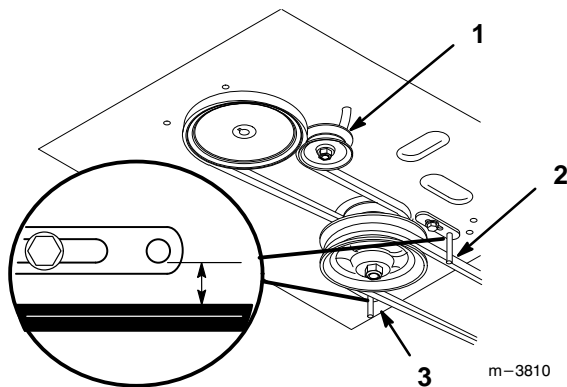

Figure 42
5. Install new belt around engine and drive pulleys (Fig. 42).
6. Slide idler pulley in engine frame to tension traction belt (Fig. 42).
8. Check the belt guides under the engine frame for proper adjustment (Fig. 42). Adjust as necessary. The disengaged belt should not drag or fall off pulley when guides are properly adjusted.